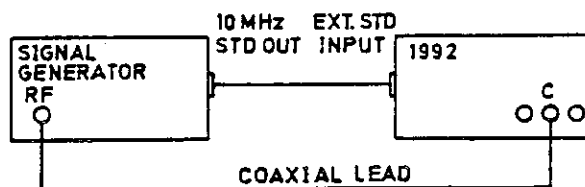

Figure 6.25 - Connections for Channel C Input System Adjustment
- 6.7.4.1.1 Connect the test equipment as shown in Figure 6.25.